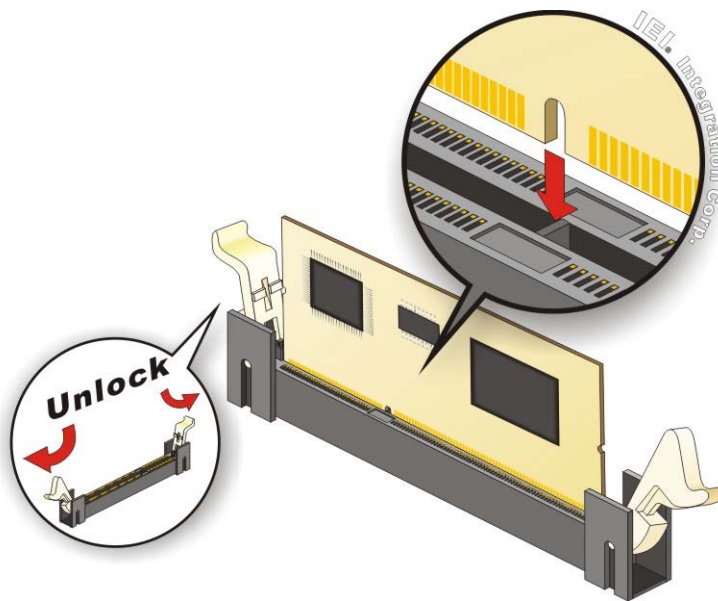

Figure 4-2: IPMI Module Installation
To install the iRIS-2400 module, please follow the steps below and refer to Figure 4-2.
- Step 1: Open the socket handles.** Open the two handles outwards as far as they can. See Figure 4-2.
- Step 2: Align the iRIS-2400 module with the socket.** Align the iRIS-2400 module so the notch on the module lines up with the notch on the socket. See Figure 4-2.
- Step 3: Insert the iRIS-2400 module.** Once aligned, press down until the iRIS-2400 module is properly seated. Clip the two handles into place. See Figure 4-2.